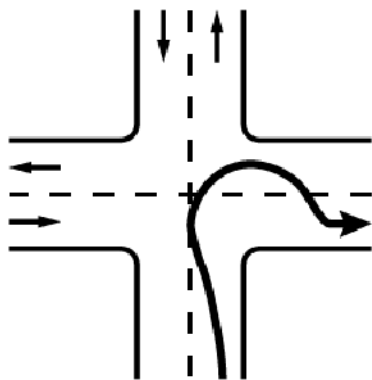

Figure 1-4: Do This
- If you are driving a truck or bus that cannot make the right turn without swinging into another lane, turn wide as you complete the turn. Keep the rear of your vehicle close to the curb. This will stop other drivers from passing you on the right. See Figure 1-4.